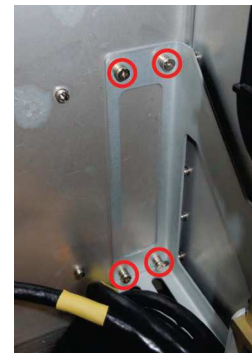
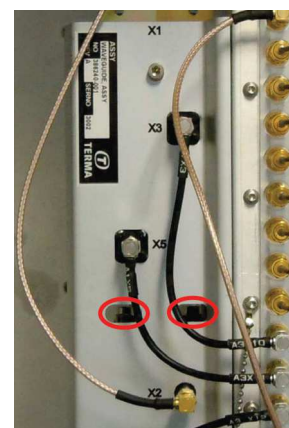

Fig. 7.35 4 screws
Fig. 7.36 Two slots
- 11 Loosen the four screws fixing the Waveguide Assy to the back - see Fig. 7.35 (p. 138). The two lower screws are accessible through the cable tray at the bottom - the two upper screws are accessible through the two slots on the front plate indicated in Fig. 7.36 (p. 138). All four screws are captive. Use tool 9.